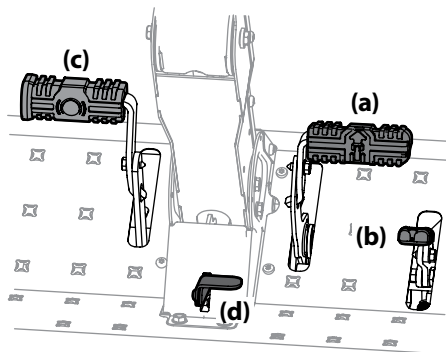

Figure 3-2
- To travel FORWARD, slowly press the forward drive pedal (a) forward until the desired speed is achieved. See Figure 3-2.
- To travel in reverse, check that the area behind is clear then slowly push forward on the reverse drive pedal with the ball of your foot (NOT your heel) until the desired speed is achieved. See Figure 3-2.